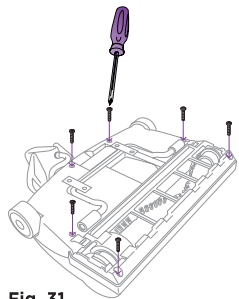

Fig. 31
- 3 Turn the power nozzle over and replace the six (6) screws. (Fig. 31)